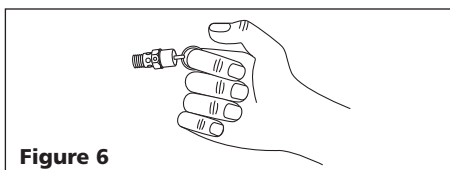

Figure 6
2. Wearing safety glasses, pull the ring on the safety valve (see Figure 6) to release pressure from compressor tank. Use your other hand to deflect fast-moving air from being directed toward your face.
2. Pull ring on safety valve and allow it to snap back to normal position (Figure 6).